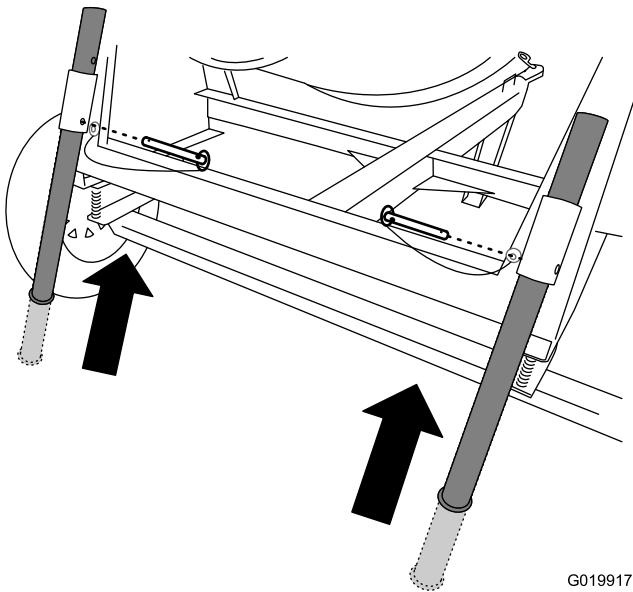

Figure 20
- Pull the clevis pin out from 1 of the rear stabilizer legs and the bracket (Figure 20).
- Slide the stabilizer leg up in the bracket and align the pin hole of the bracket with the lower hole in the stabilizer leg (Figure 20).
- Push the clevis pin through the hole in the bracket and the stabilizer leg (Figure 20).